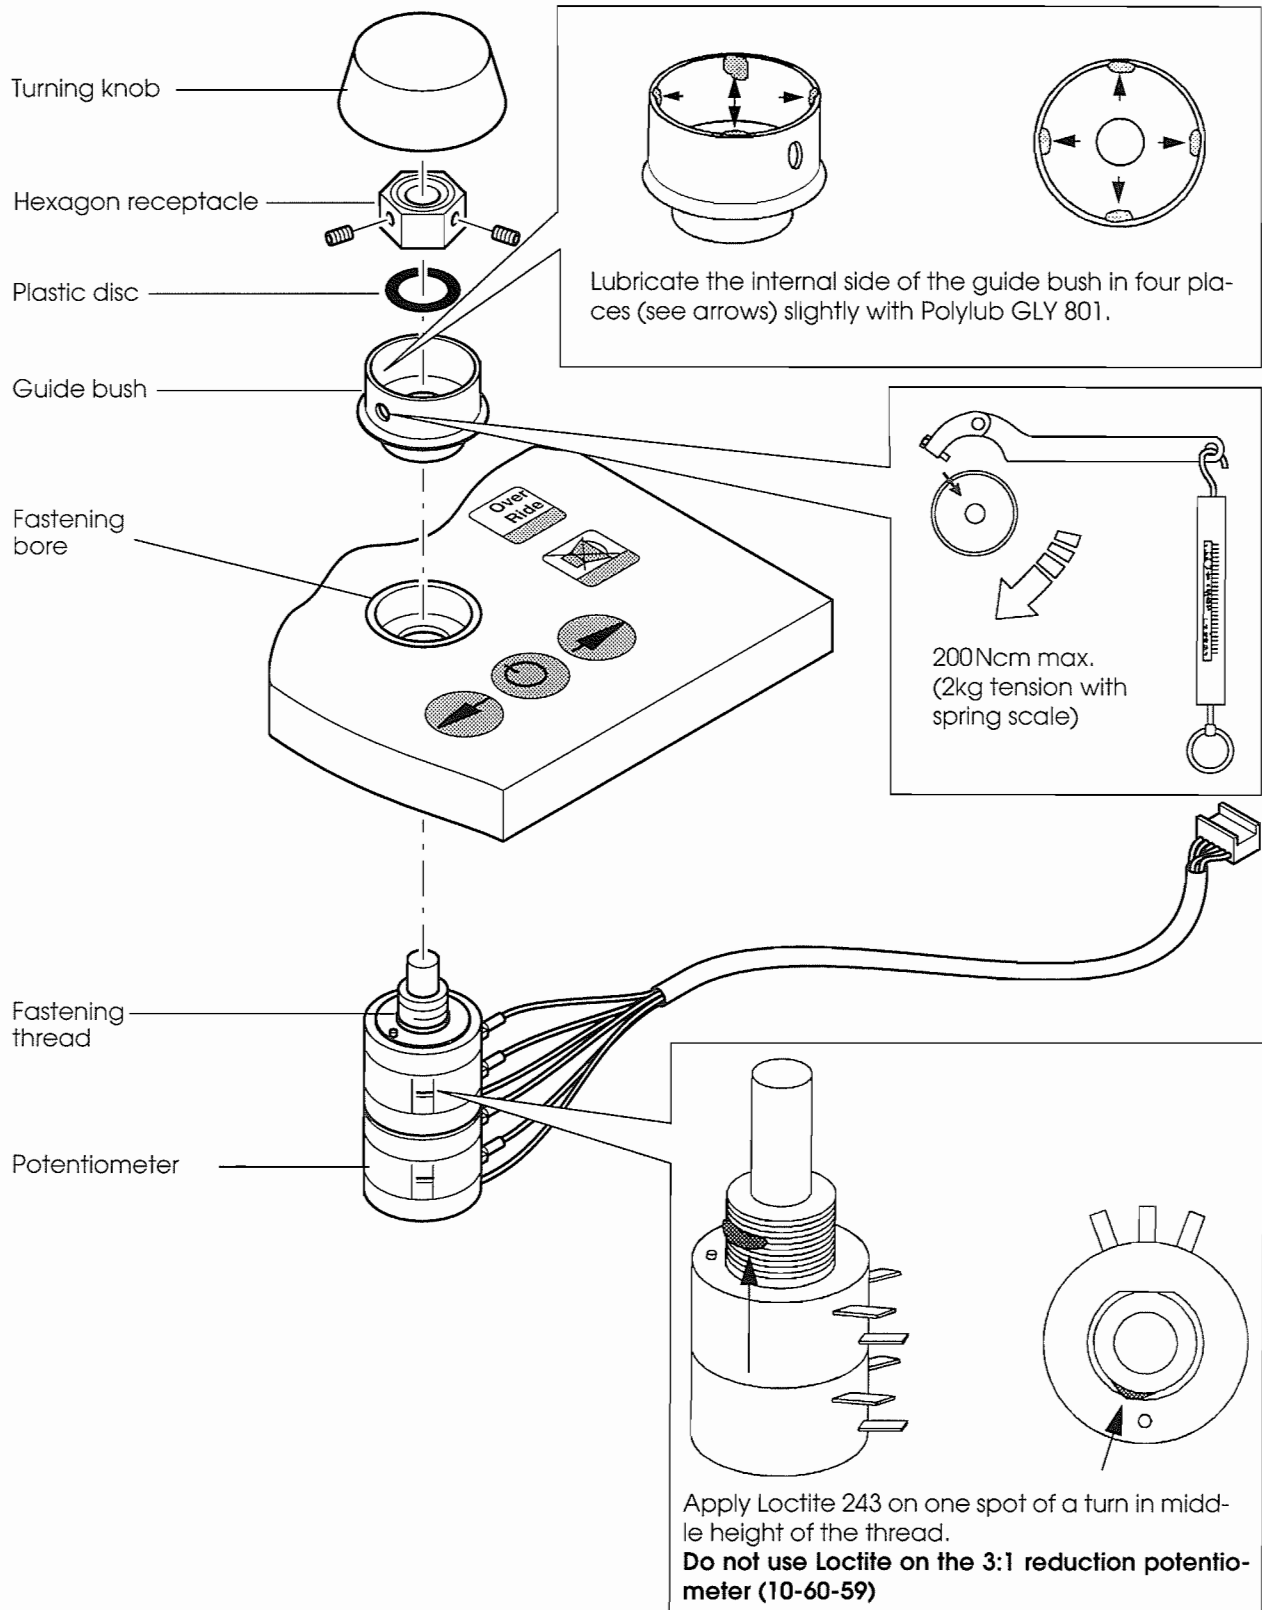

Fig. 26 Potentiometer for double head pump and roller pump
- Slightly grease the guide bush on the internal side with Polyub GLY 801 as shown in Fig. 26.
- Clamp hexagon receptacle with the two set screws to the potentiometer axis (Allan key 1.5).